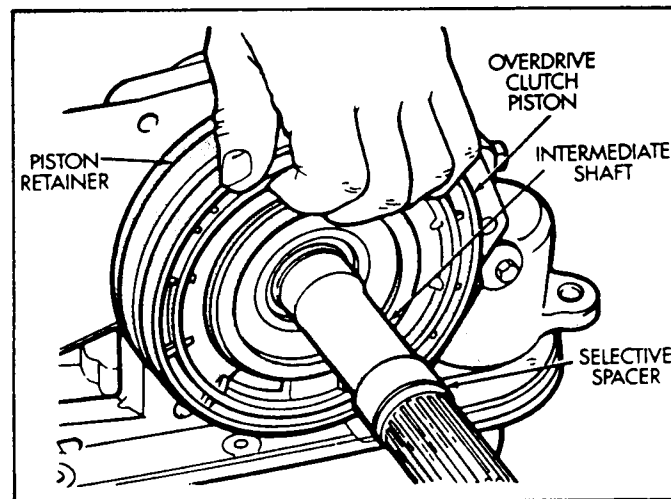

Figure 7
12. Remove the overdrive piston from the retainer, as shown in Figure 7.